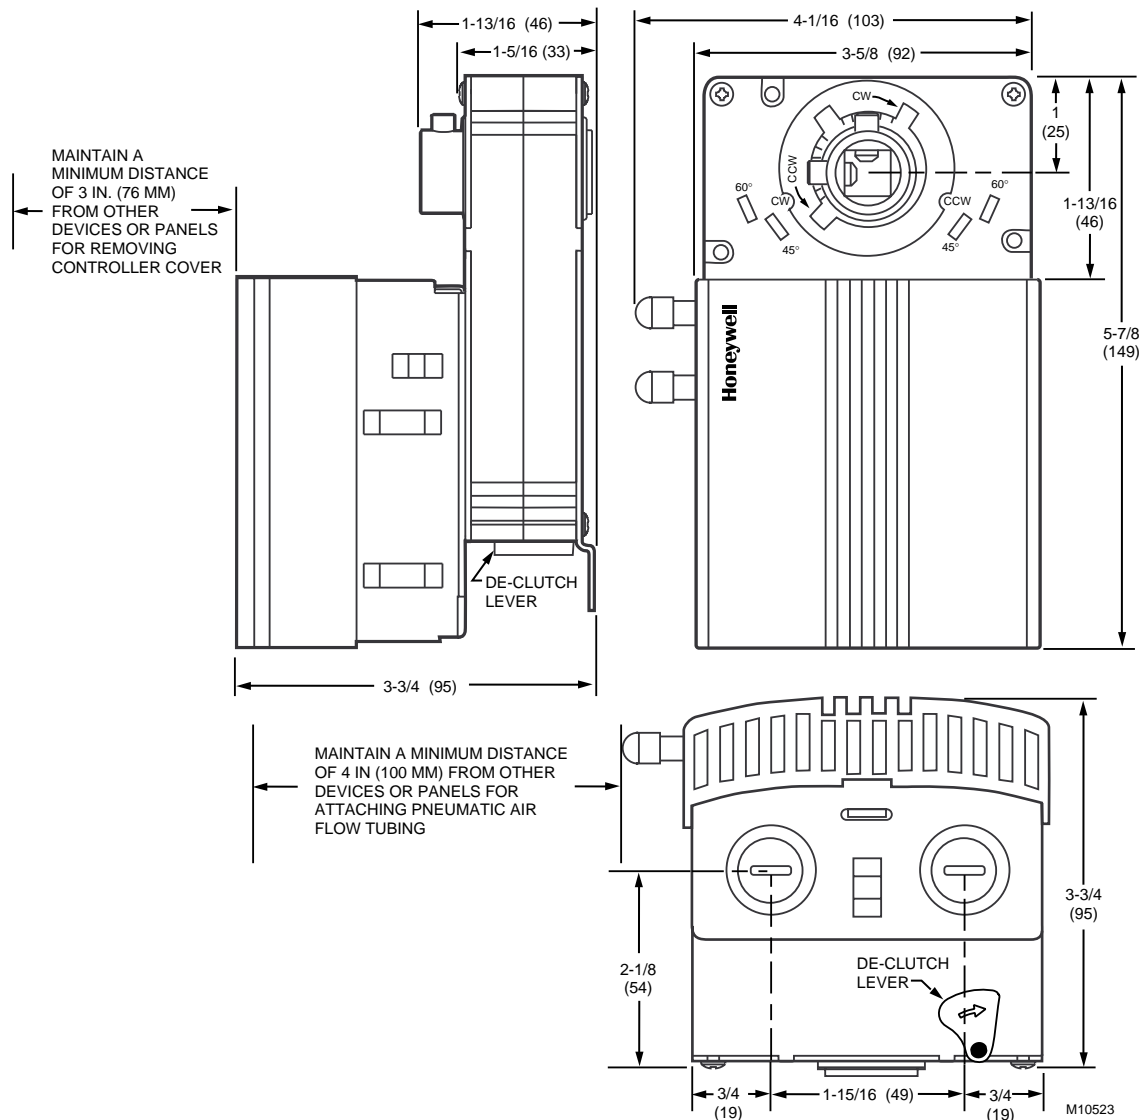

Fig. 2. W7751H mounting dimensions in in. (mm).
The ML6161B Direct-Coupled Actuator with De-clutch mechanism (see Fig. 2 for location) allows the installer to manually open or close the VAV box damper connected to the W7751H without power or software tool to command it.
Mount the W7751H on the damper shaft (horizontal only) and allow clearance for wiring, servicing and module removal. Avoid mounting the W7751H in areas where acid fumes or other deteriorating vapors can attack the metal parts of the actuator, or in areas where escaping gas or other explosive vapors are present. See Fig. 2 for mounting dimensions.
The controller enclosure on the W7751H is constructed of a sheet metal housing and a plastic snap-on cover. Controller wiring on the W7751H is terminated to screw terminal blocks located under the snap-on cover. See Wiring section. The sheet metal housing has two 1/2 inch (13 mm) knockouts (see Fig. 2) compatible with 1/2 inch (13 mm) or 3/4 inch (19 mm) conduit.
*It is advisable to leave the dampers in an open position after W7751H installation to avoid the possibility of overpressurizing the ductwork on fan startup. Use the De-clutch lever (see Fig. 2 for De-clutch lever location) to open the box damper on W7751H controllers that are powered down, to prevent overpressurization in the ductwork on fan startup. To use the De-clutch lever, press and hold the lever in the direction of the arrow (this disengages the motor). Turn the damper shaft until the damper is open and release the lever. When power is restored to the W7751H controller, the controller synchronizes the damper actuator so that the damper is in the correct position upon startup.*